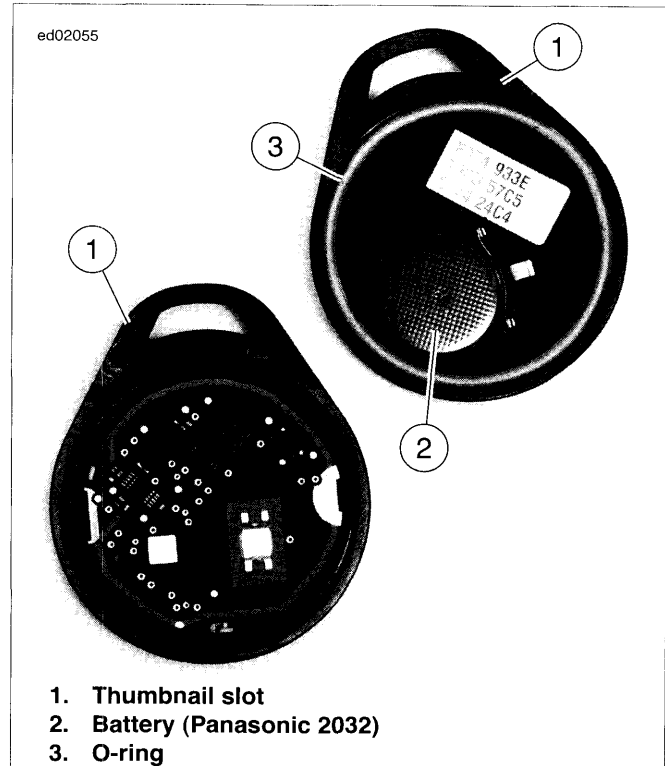

Figure 6-146. Open Fob: HFSM
- b. **HFSM:** See Figure 6-146. Place a thin blade in the thumbnail slot (1) between the two halves of the case.
- b. **HFSM:** See Figure 6-146. With O-ring (3) in place, align case halves.